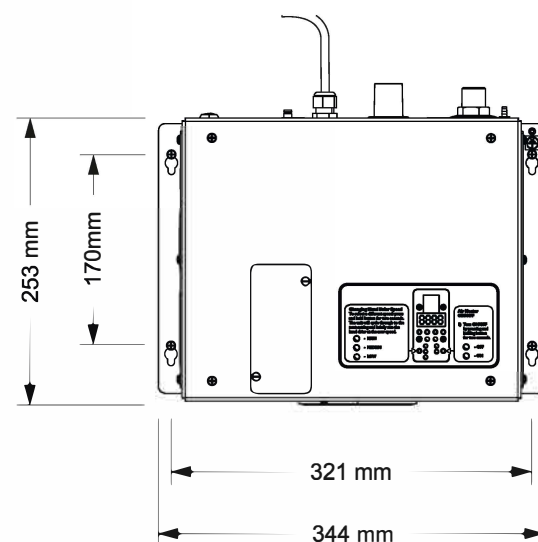

Fig 10
2. Fasten to the wall using mounting hardware suitable for the wall material (to be provided by others). The wall must be robust enough to support the weight of the module. See figure 10